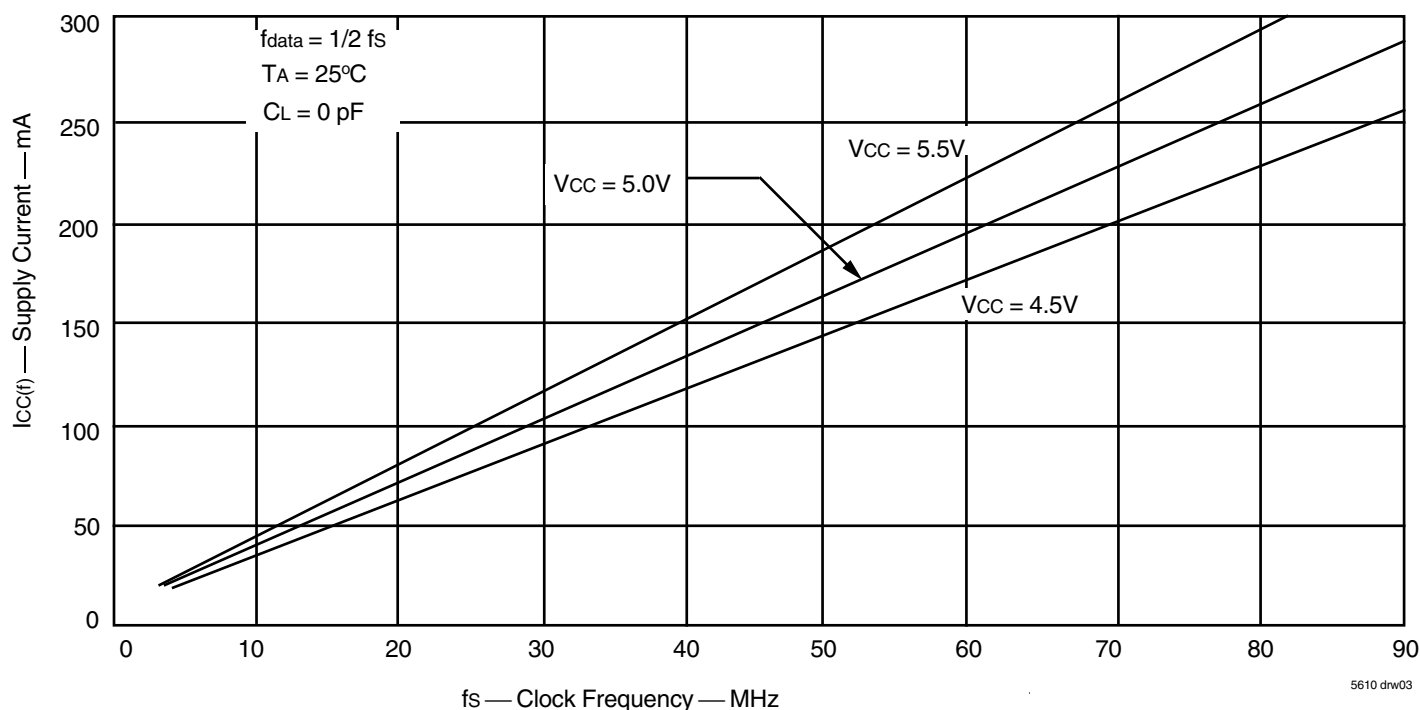

Figure 1. Typical Characteristics: Supply Current (I_{CC}) vs. Clock Frequency (f_s)
- For additional I_{CC} information, see Figure 1, *Typical Characteristics: Supply Current (I_{CC}) vs. Clock Frequency (f_s)*.
The $I_{CC(f)}$ current for the graph in Figure 1 was taken while simultaneously reading and writing a FIFO on the IDT723663/723673 with CLKA and CLKB set to f_s . All data inputs and data outputs change state during each clock cycle to consume the highest supply current. Data outputs were disconnected to normalize the graph to a zero capacitance load. Once the capacitance load per data-output channel and the number of IDT723663/723673 inputs driven by TTL HIGH levels are known, the power dissipation can be calculated with the equation below.
With $I_{CC(f)}$ taken from Figure 1, the maximum power dissipation (PT) of these FIFOs may be calculated by: